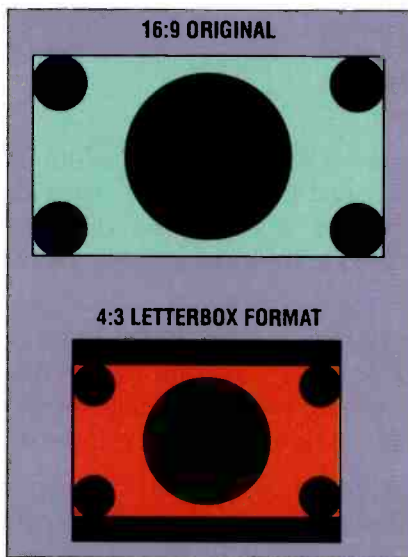

Figure 3. The letterbox mode.
- **Use the letterbox method.** Figure 3 shows the manner in which a 16/9 aspect ratio picture is reduced vertically and horizontally to fit inside a 4/3 aspect ratio window. The process generates black bars at the top and the bottom of the picture. The thickness of the black bar depends on the aspect ratio of the film. *Letterboxing*, as it is commonly called, reduces the vertical resolution